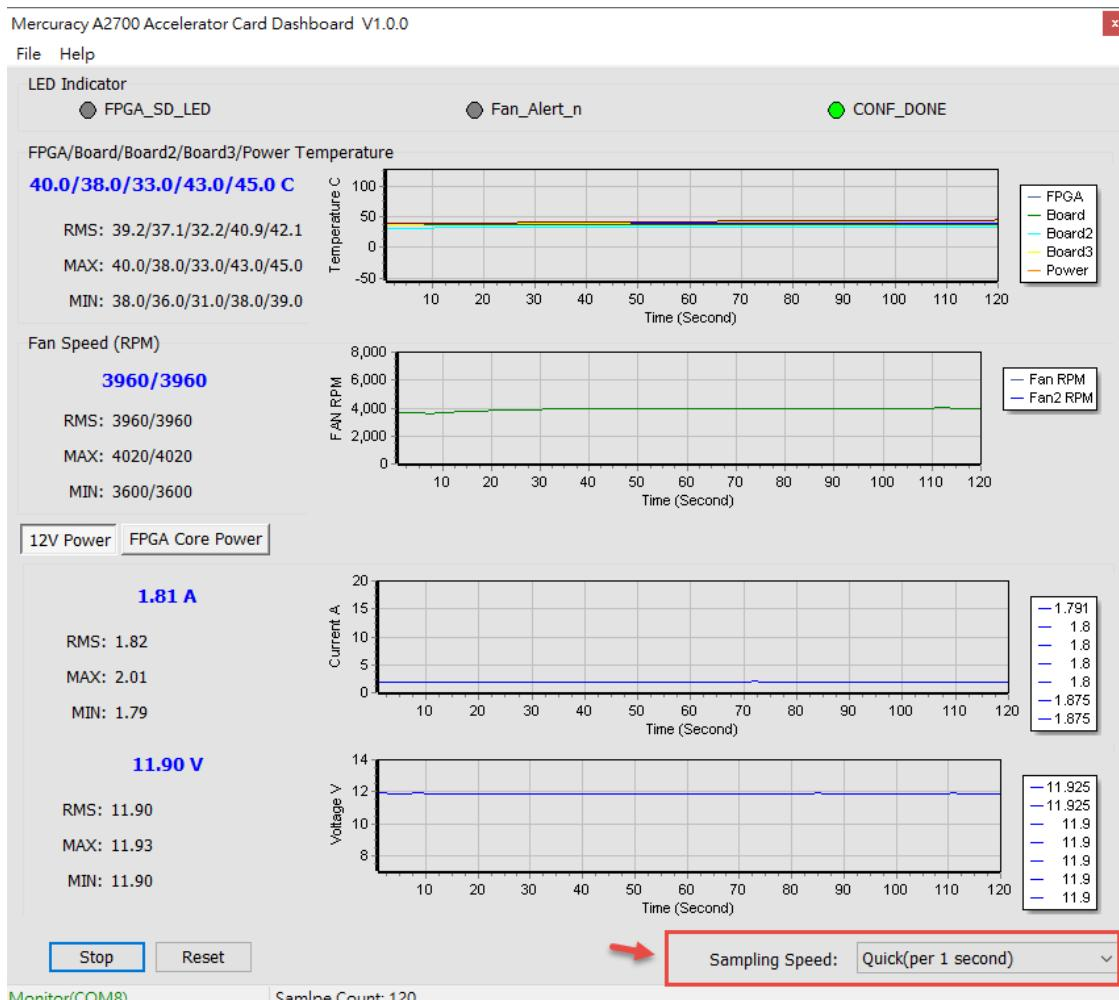
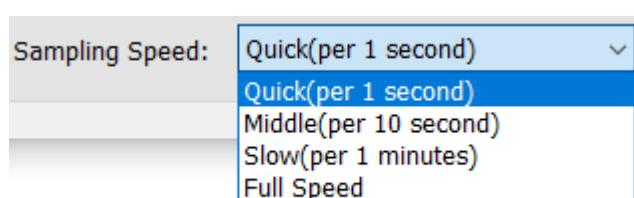

Figure 4-14 Sampling Speed section
Figure 4-15 Options of Sampling Speed
- **Sampling Speed:** It can change interval time that the Dashboard GUI sample the board status. Users can adjust it to 1s/10s/1min/Full Speed (0.1s) to sample the board status, as shown in Figure 4-14 and Figure 4-15.